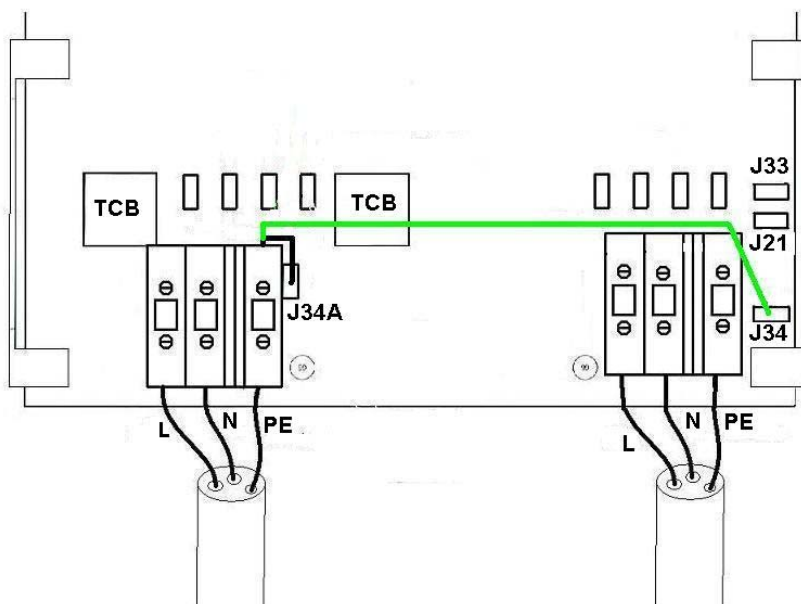

Figure 4: Input earth connection
2.3. Input earth connection (fig 4)
- If the boat is floating, connect the PE wire coming from the input PE terminal to male push-on connector J34A (wire shown in black on fig 4). Now input and output are isolated from each other.
- If the boat is on shore (winter period or maintenance), the PE conductor in the boat must be connected directly to the input PE, for safety reasons. This is achieved by connecting the PE wire coming from the input PE terminal to male push-on connector J34 (wire shown in grey on fig 4).